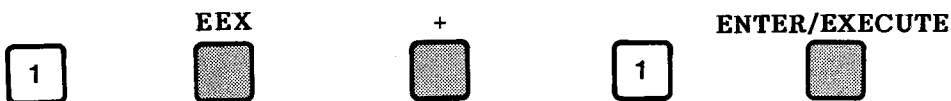
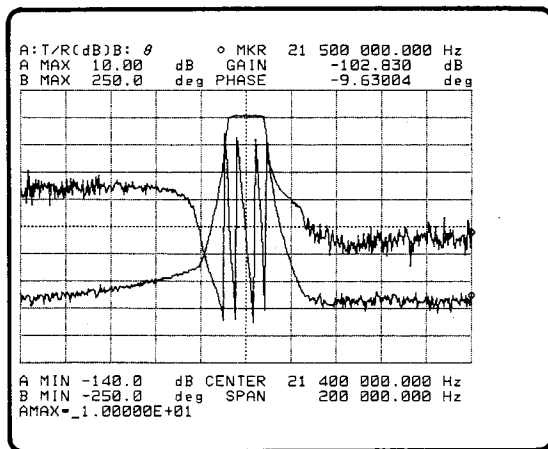

Figure 3-78. Direct Key In
Figure 3-79. New A MAX value.
- Press the **STEP UP/DOWN** key, or enter directly using the input keys in the entry section as shown in Figure 3-78. The scale will change as shown in Figure 3-79.